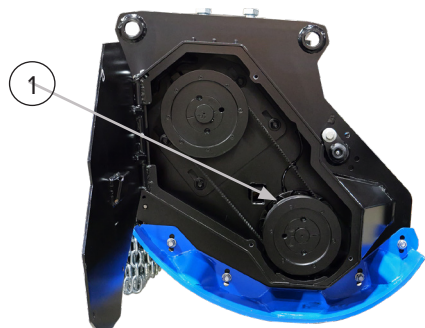

Figure 4
2. Apply reflective tape to the rotor pulley [Figure 4, Item 1].